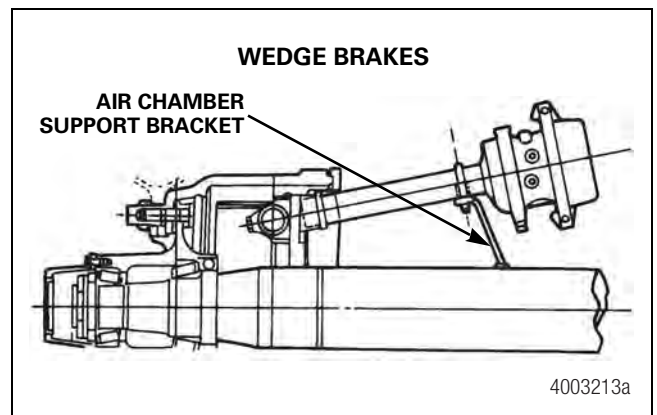
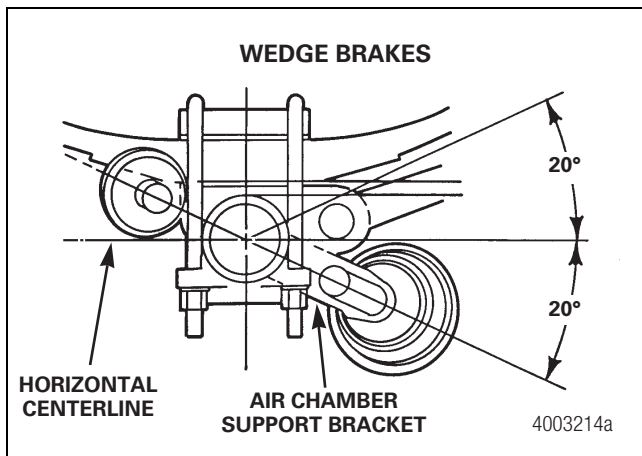

Figure 6.10
Figure 6.11
- **Wedge brakes with air chamber tube support brackets:** When wedge brakes are equipped with air chamber support brackets, the centerline of the brackets must be located within 20 degrees of the axle horizontal centerline. Figure 6.10 and Figure 6.11.